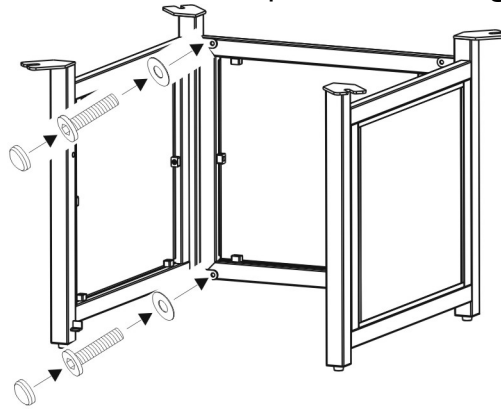

Figure 2
2. Attach the back panel to the side panels (1 and 2) by using four 1/4"x15 mm bolts and Ø6.5x1.0 mm washers as shown in Figure 2. Guide the bolts through the holes in the back panel, into the pre-drilled holes in the side panels. **Hand tighten only.**